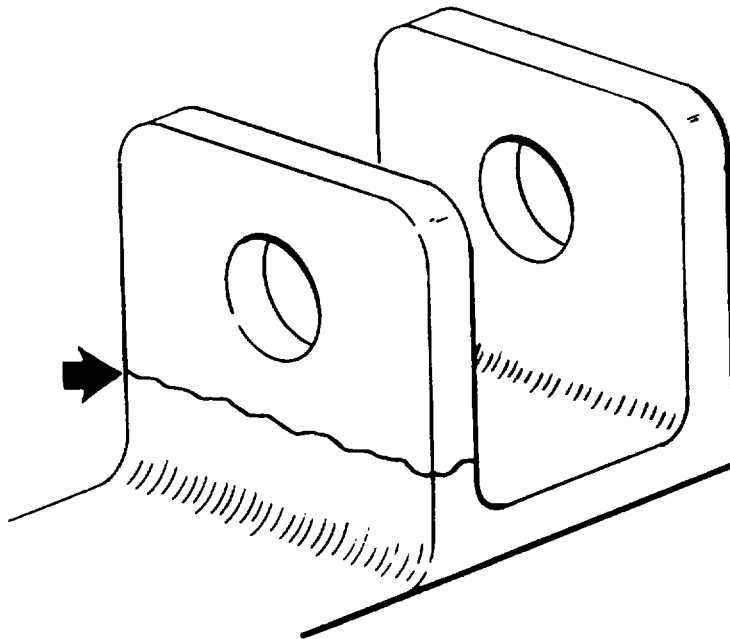

Figure 3-3. Bracket Broken.
- (1) *Option 1.* If bracket is broken off at the base metal, with component mounting holes unaffected, reweld in place (figure 3-3). Mounting holes may be elongated to compensate for misalignment of attaching item.
- (2) *Option 2.* If the bracket mounting holes cannot be used because of stripped threads or broken bolts cannot be removed, weld the bracket to the location.
- (3) *Option 3.* If brackets cannot be welded or bolted, tie the component in place using rope, commo wire, Bungee cords or BII straps.